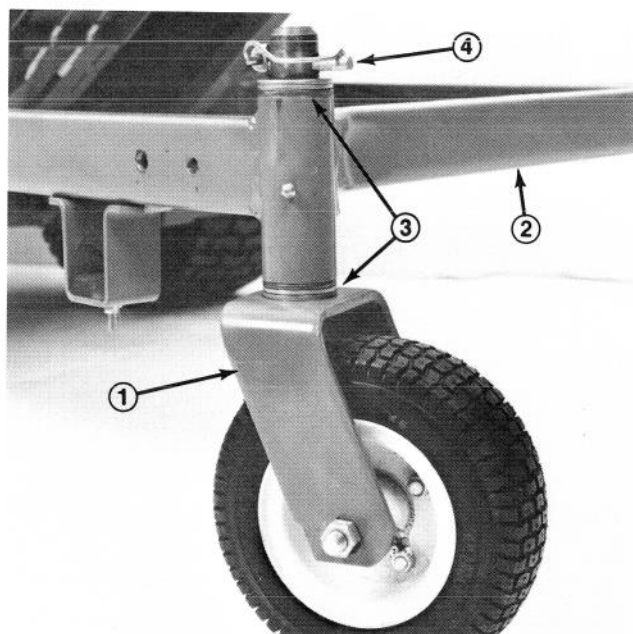

Figure 4
1. Remove Lynch Pins and two thrust washers from each castor wheel assembly. Leave two thrust washers on each shaft, insert shafts into frame, install thrust washers and Lynch pins (Fig. 4).